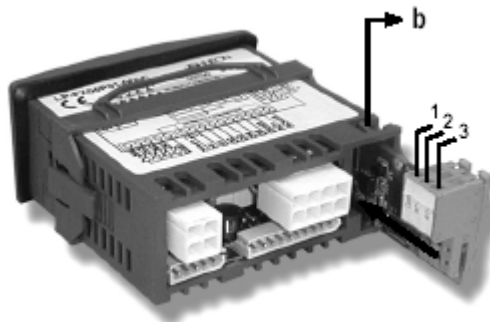

Figure 19: Card Insertion
2. Insert the card (see Figure 19).